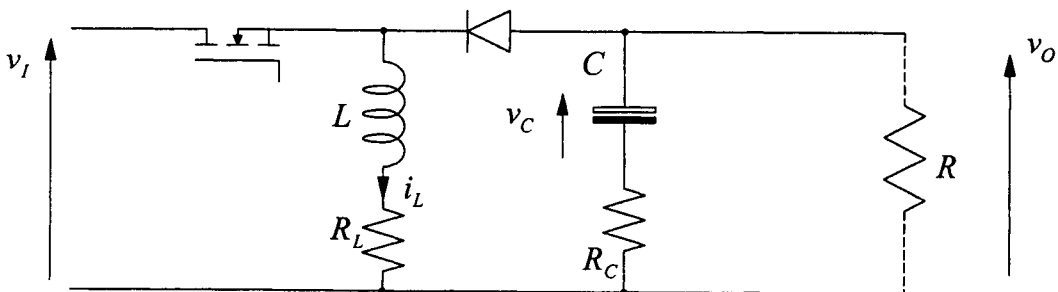

Figure 1.1 A Flyback switch-mode power supply
- (c) Figure 1.1 shows the circuit diagram of the flyback switch-mode power supply. The state-space models for the On and Off modes, using the state vector  $\mathbf{x} = [i_L \ v_C]^T$ , have been established for the two modes as: